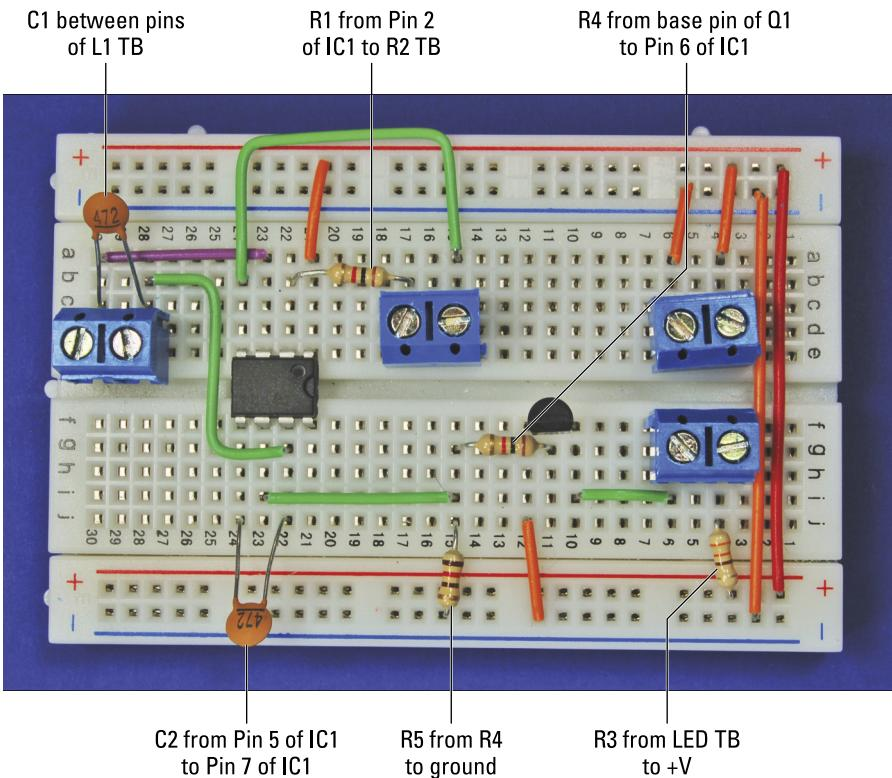

Figure 2-9:
5. Insert two $0.0047 \mu\text{F}$ capacitors (C1 and C2), two $1 \text{k}\Omega$ resistors (R1 and R4), one 330Ω resistor (R3) and one 120Ω resistor (R5) on the breadboard, as shown in Figure 2-9.